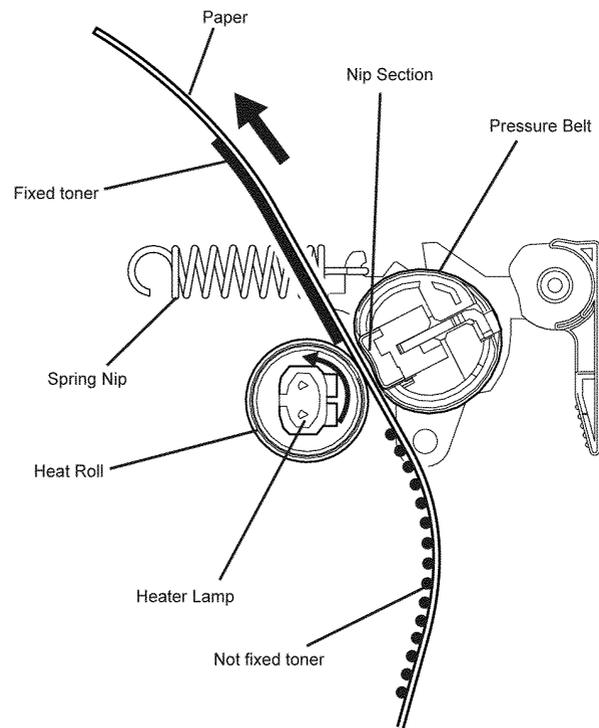

Figure 10 Fusing
- The pressure belt friction-driven by the heat roll nips the paper against the heat roll using the pressurizing mechanism contained in the pressure belt. Refer to Figure 10.